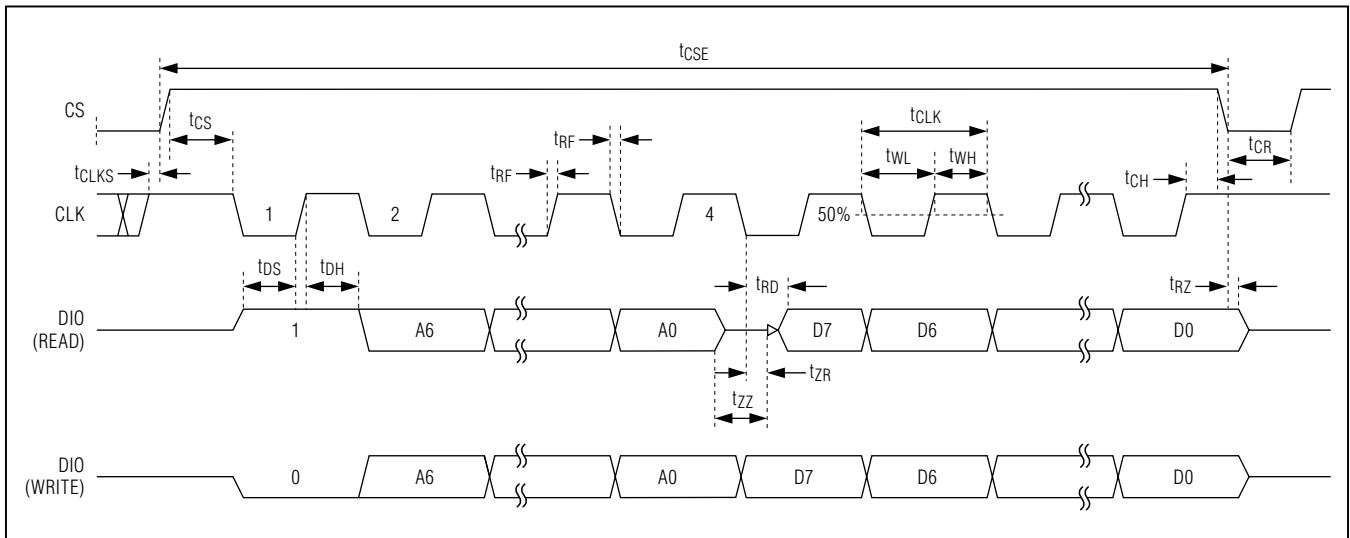

Figure 24. SPI Timing
For both read/write, first set chip select (CS) high (Figure 24). Once the clock starts, specify the first bit (read/write data), then the register address and then the data. The SPI interface supports single byte and burst read/writes.